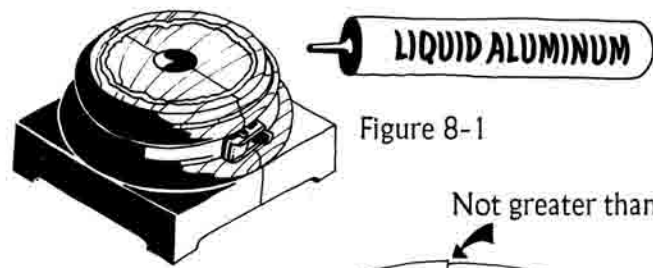

Figure 8-1
1. Assemble halves using screws and resorcinal glue on wood or polyurethane parts. Use quality liquid aluminum with aluminum plinths. Use a web/band clamp for a minimum of 24 hours (Fig. 8-1).